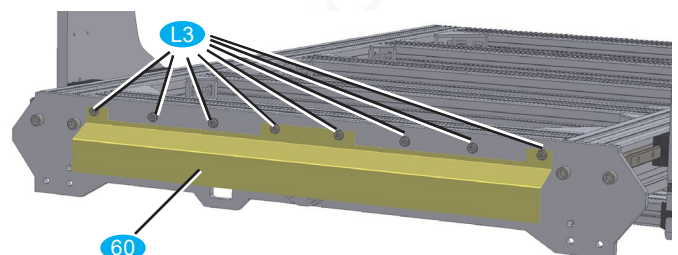

Fig. 10: Assembly of the belt cover
- Loosen the screws **L3** a few turns (see Fig. 10), slide the X Double toothed belt cover **60** under the screw heads and tighten the screws.